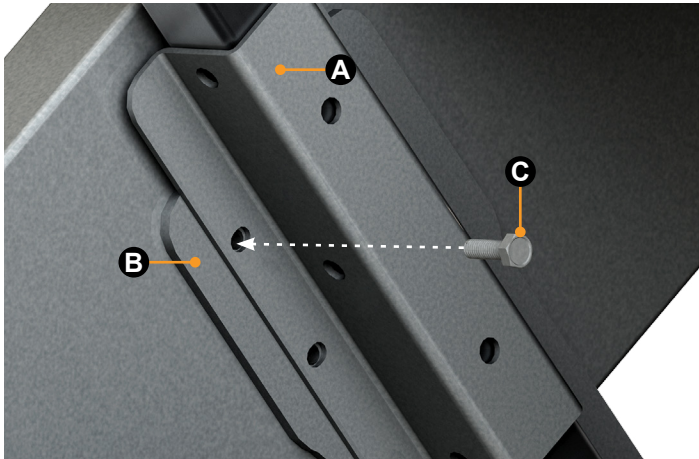

Fig.5
17. Install one #10 x 0.34", lock washer onto one #10 - 24 x $\frac{5}{8}$ " bolt and insert through the mounting bracket and into the side of the step (Fig.5).